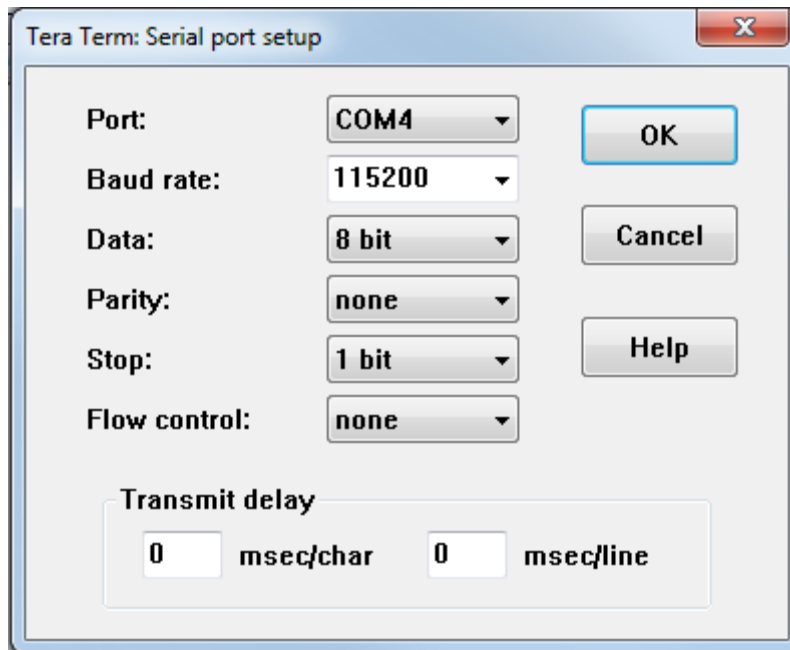

Figure 8 – Connect Tera Term to the proper COMx port
14. On the PC, open a serial terminal program. Tera Term is used to show the example output for this lab document. Follow the instructions in the CP210x Setup Guide to set the terminal as shown in Figure 8, using the appropriate COM port that you discover on your own machine.